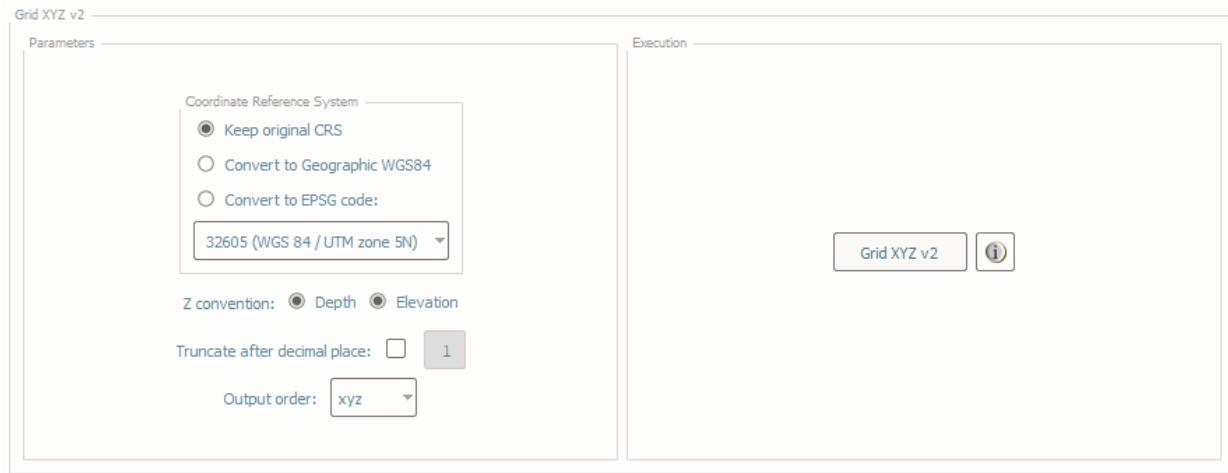

Fig. 2.73: Grid XYZ's interface.
- In **Execution** (Fig. 2.73), click **Grid XYZ v2**.